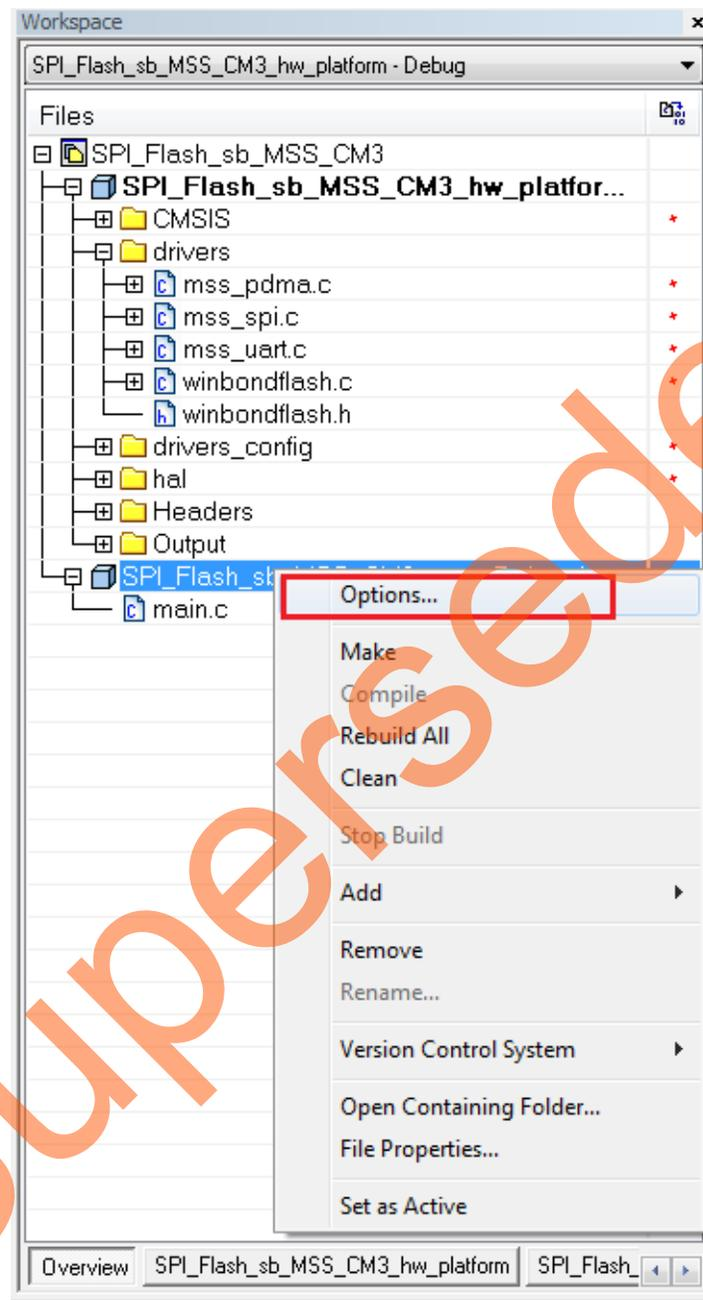

Figure 27 • IAR Workspace Window - Choose Options
- To configure the project, right-click the project name (SPI_Flash_sb_MSS_CM3_app), and click **Options**, as shown in Figure 27.